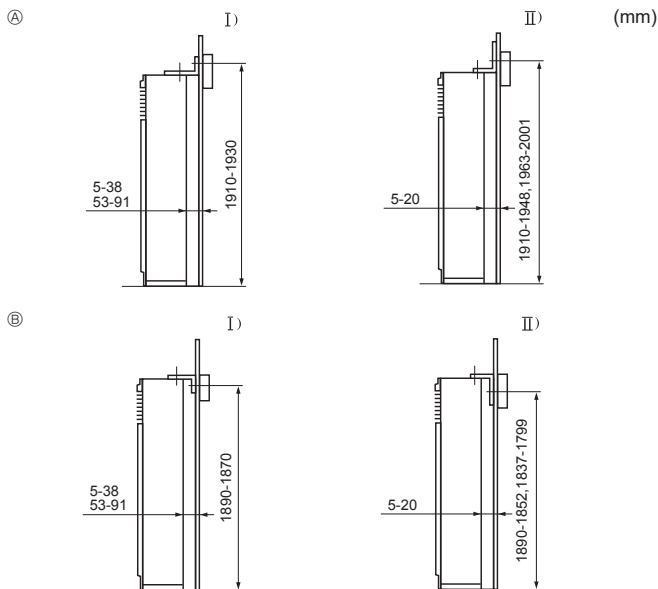

Fig. 3-3
- ① Tip-over prevention bracket
The tip-over prevention bracket ① is set on the top surface of the unit. Remove the tapping screws ②, and then reinstall the bracket, as shown in the illustration. For the proper installation distances, see Fig. 3-3.
- Ⓟ Remove the screw ④ and then pull the grill forward to remove it.
3.3. Mounting the tip-over prevention bracket (Fig. 3-3)